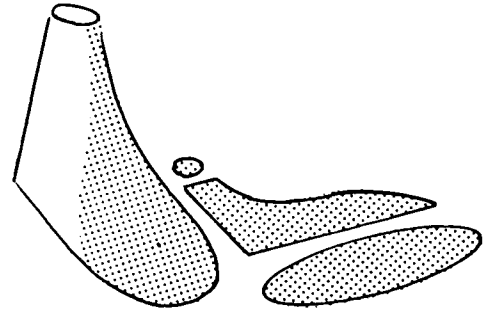

FIGURE 12. CLAY MOUND
3. Form a little square pipe, 19mm (3/4") long, of sheet metal on the 19mm (3/4") square steel rod. Make several of these as they will be used later when casting the cores. Fill the square pipe with clay and press it into the top of the clay mound a little bit. This will be used later to "key" the cores together. See Figure 12.